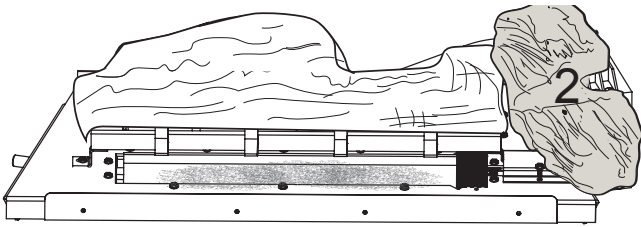

Figure 5.12 - Log #2 Placement
- Hold log #2 with the flat surface to the right. Place log #2 to the right side of the burner assembly by positioning the pin locator hole on the bottom of the log over the pin on the right-hand side. See Figure 5.12.